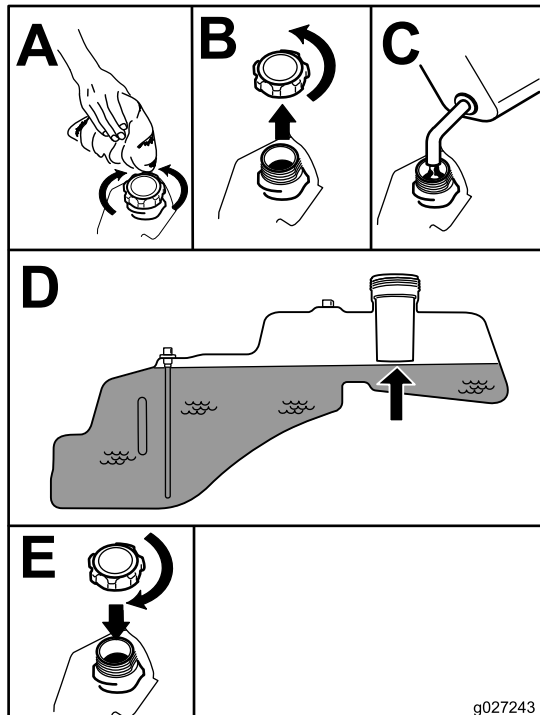

Figure 9
4. Fill the fuel tank to the bottom of the filler neck (Figure 9).